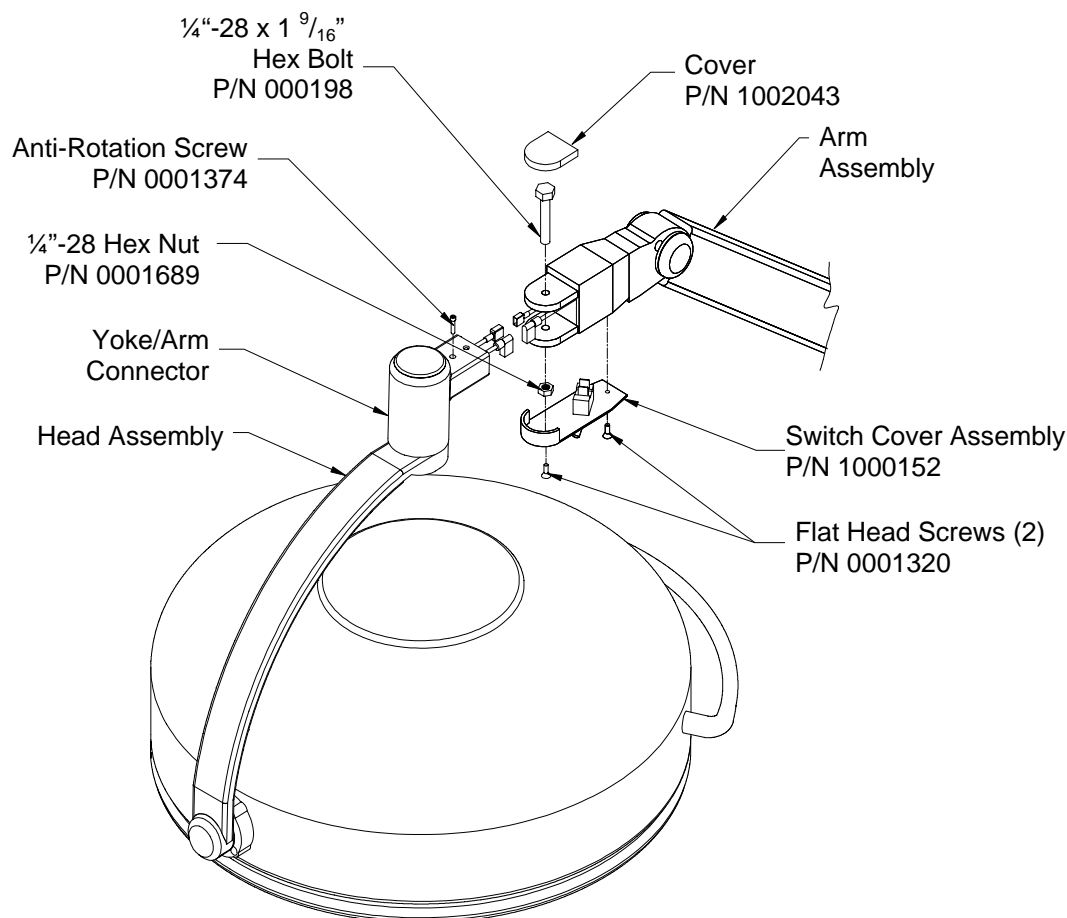

FIGURE 15: Installation of Light Head to Arm
- Remove the two screws from the switch assembly cover and pull downward exposing the switch and the wire connector. See figure 15.
- Press the snap cover onto the top of the hex bolt as shown in figure 15.